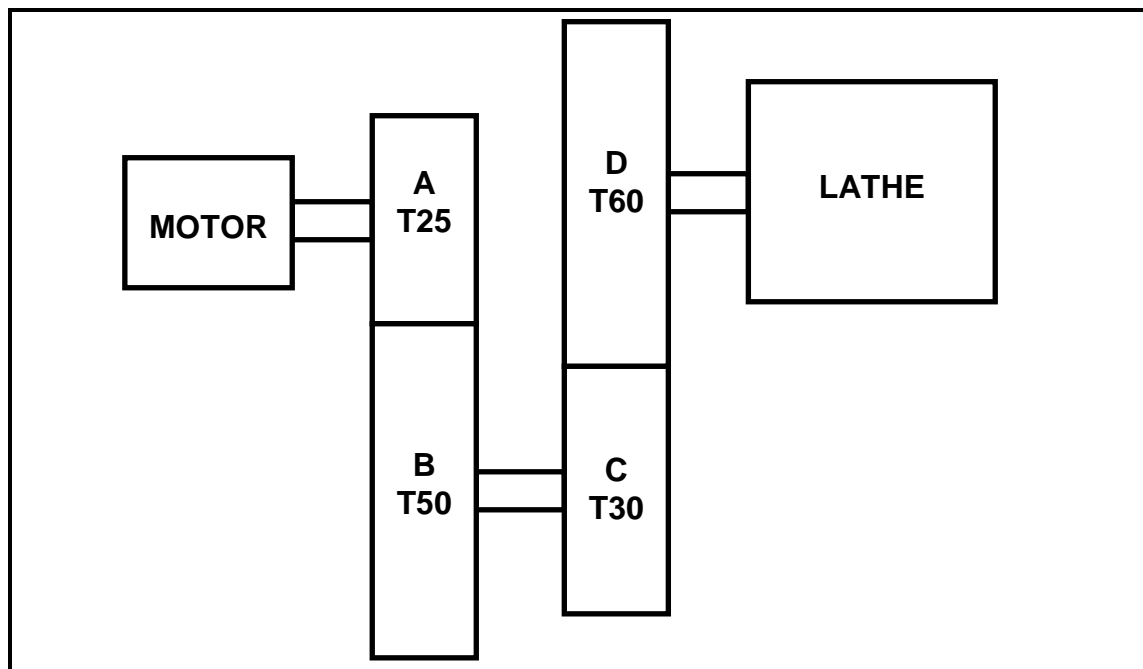

FIGURE 4.1
- 4.7 The gear set of a simple lathe is shown in FIGURE 4.1 below. Gear **A** rotates at 2 000 revolutions per minute and has 25 teeth, and meshes in with gear **B** which has 50 teeth. Gear **C** has 30 teeth and is on a common shaft with gear **B**. Gear **D** has 60 teeth and is driven by gear **C**. The module for the gears is 2,5.